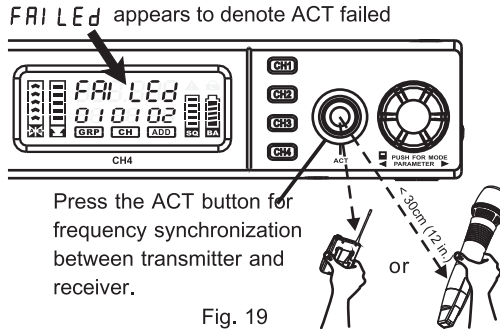

Fig. 19
(F) ACT Sync Setting. Fig. 19: